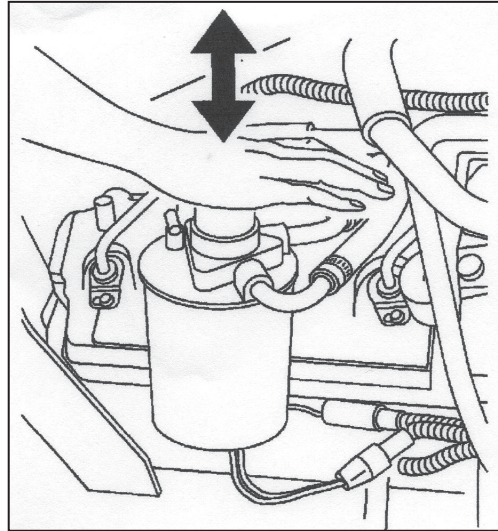

FIG. 3
- 2) Operate the priming pump until a small amount of fuel seeps from the vent valve. Allow the priming pump to fully return to its upright position between pump strokes (see Fig. 3). When fuel is present, the filter should be full of fuel and the system primed.